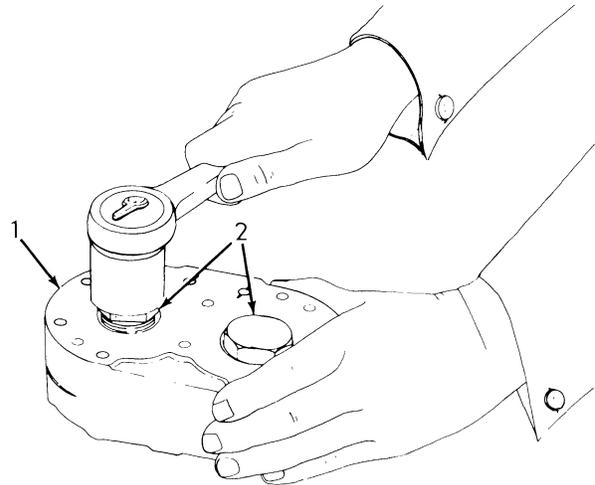

FIG.8 REMOVING DISCHARGE VALVE SEAT T-77191
Remove discharge valve cap nuts, Fig. 8 (2) from top of cylinder head. Remove springs Fig. 9 (3) and valves (4) from counterbores. Remove discharge valve seats (8).